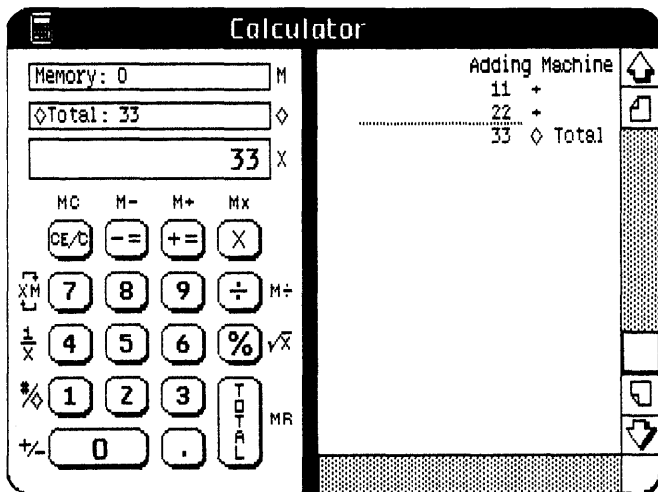

Figure 7. Adding Machine, Example 1
- 5 ► Click #/◇; see Figure 7 now.
In Figure 7, the subtotal 33 has been stored in the calculation register (labeled \diamond), displayed in the X register, and shown on the transaction tape. The dotted underscore indicates that a subtotal was taken; the actual value of the subtotal is labeled \diamond Total.